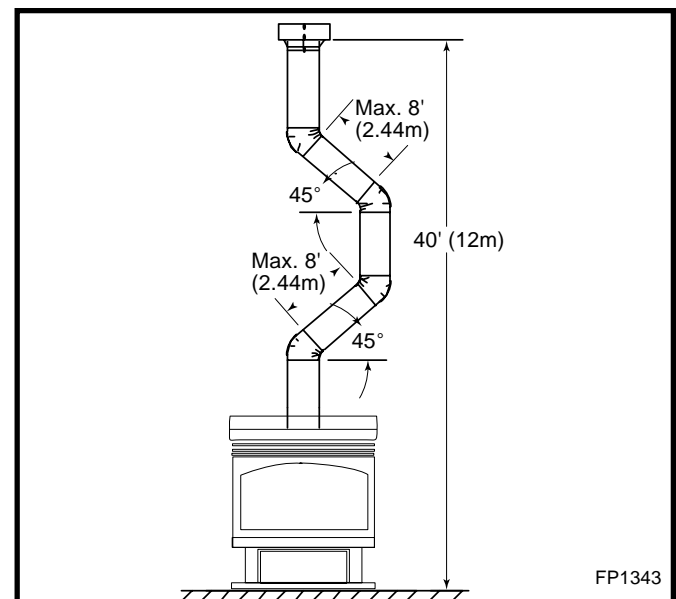

Fig. 24 Typical offset installation.
- Two sets of 45 degree elbow offsets within these vertical installations. From 0 to a maximum of 8 ft. of vent pipe can be used between elbows. (Fig. 24)